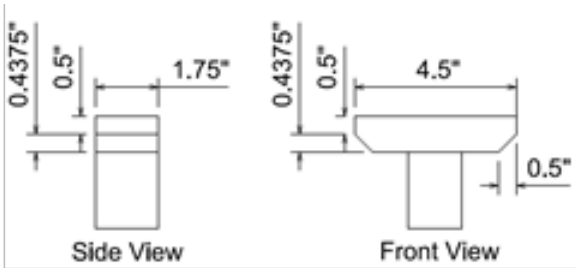

Figure 4. Support Detail
- Lamination shall be permitted one layer thick, in either direction, as shown in the picture below. Lamination is gluing two members along their length. Bridges decks will NOT be permitted and will result in judges recording a zero (0) for weight held.
- Tester supports will be placed at 14 inches on center. Support dimensions are shown below in figure 4.